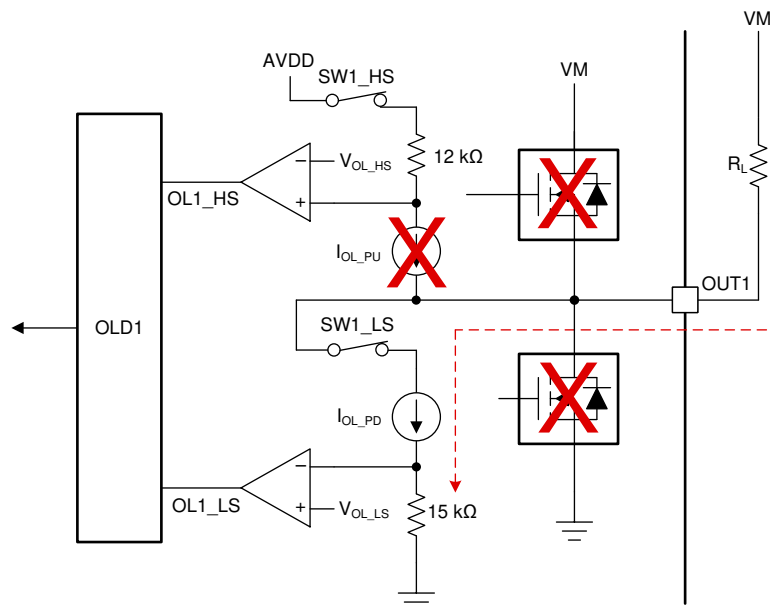

图 61. Open Load Detect Circuit for Load Connected to Supply Voltage (VM)
OLD circuit consists of four main components i.e. current source (and current sink), series sequencing switches (sequenced by the digital core), resistors and comparators. For ground (GND) connected load, the current source ( $I_{OL\_PU}$ ) pulls up the OUTx node to internal regulator voltage (AVDD) and allows the current to flow from internal regulator voltage (AVDD) to ground via the connected load as shown in Figure 59. Moreover, for the supply (VM) connected load, the current sink ( $I_{OL\_PD}$ ) pulls down the current from supply voltage (VM) to ground via the connected load as shown in Figure 61. The resistance of the load connected at the OUTx terminal will change the source / sink current and indirectly the voltage drop across two resistors (12-kΩ and 15-kΩ). This voltage drop across resistors is compared with the reference voltage ( $V_{OL\_HS}$  and  $V_{OL\_LS}$ ) by the internal comparators to give the output as OL1\_HS and OL1\_LS. This comparator output is fed to the open load digital circuit to determine the open load condition.
图 61 shows the supply (VM) connected load with internal OLD circuit. When low-side open load sequence is activated (i.e. SW1\_HS is off and SW1\_LS is on), the current sink ( $I_{OL\_PD}$ ) pulls down the OUT1 node to supply voltage ( $V_{VM}$ ) and current flows from supply (VM) to ground via the connected load ( $R_L$ ). Now, depending upon if the load is present or not, there can be three cases as follows: